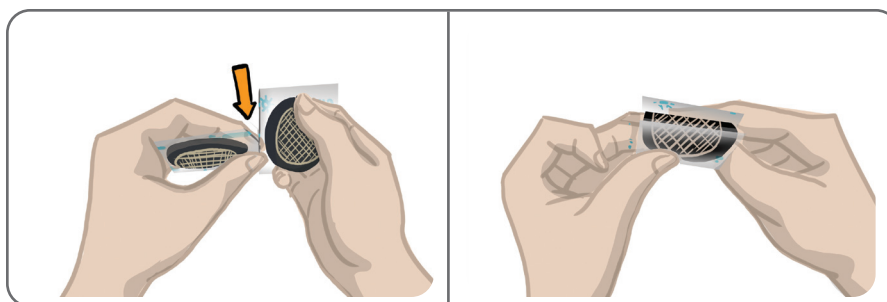

Figure 8-2: Separating the Hydrogel Electrodes and Splitting the Two-Piece Covers
2. Separate the two new hydrogel electrodes along the perforation. See Figure 8-2.
3. Remove the covers on each electrode and discard them. See Figure 8-2.